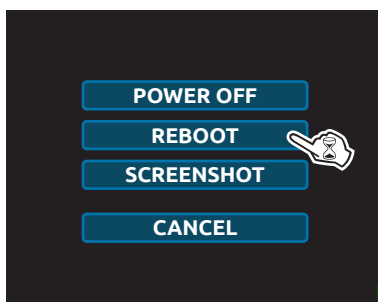

Fig. 7
- Press and hold the switching off key until Fig. 7 is displayed and then release it and press **REBOOT**.